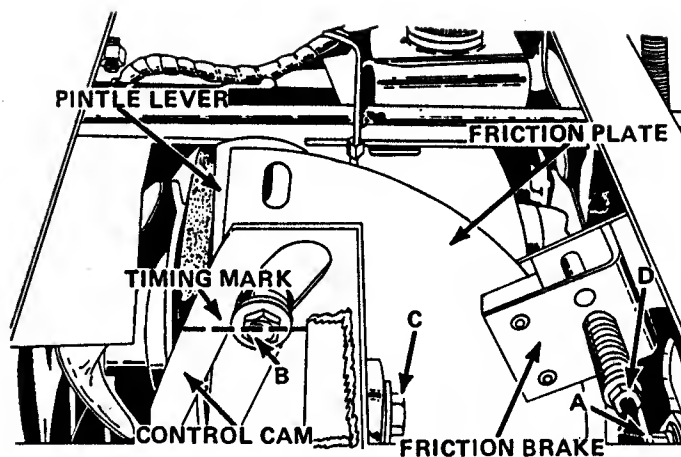

Figure 33
To adjust the neutralizer pedal, place control lever in the "park-start" position, loosen bolt A, Figure 33, depress the foot pedal and apply the brake lock, then retighten bolt A.
2. Check position of the timing mark on control cam. With the shift lever in the "park-start" position and brake lock engaged, the center line of bolt head B, Figure 33, should be aligned with the timing mark on the cam. If the timing mark does not align with the bolt head, loosen bolt C and move the cam up or down as required to align the bolt head with the timing mark. Tighten nut C securely after making the adjustment.
5. Loosen bolt B slightly. Insert a screw driver through the slots in the friction plate and the pintle lever, Figure 33. Pivot the pintle lever left or right until the rear tires stop rotating and retighten bolt B.
To adjust the friction brake, tighten or loosen bolt D, Figure 33, until the proper braking is reached.